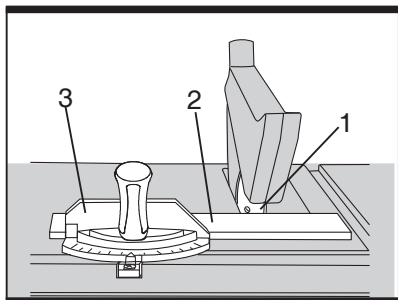

Fig 20
1) Adjust the saw blade (1) height so it is about 3.2 mm above the top of the workpiece.
3) Turn on the switch and allow the saw blade (1) to come up to full speed.
4) Keep the workpiece (2) against the table and mitre gauge (3), slowly feed the workpiece rearward all the way through the saw blade. Continuously push the workpiece until it is clear of the blade guard and it falls off the rear of the table.
5) When performing bevel cross cutting, only work with the workpiece and mitre gauge on the right side of the saw blade (See fig. 20).